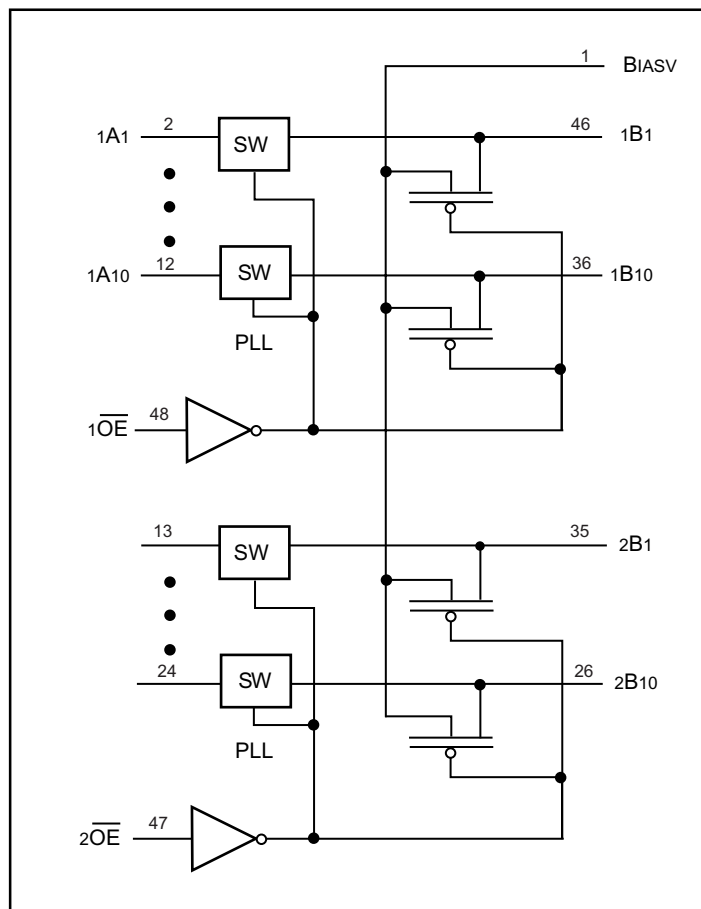

Figure 5.
4. The PI3CXXX, PI3BXXX and PI5CXXX switches with an internal PMOS pull-up resistor at B-side (see figure 5) are only suitable for hot plug but not for hot swap application. During hot swap, the PN junction of the PMOS pull-up will forward the signal from back plane through BIASV pin to the ground, while the voltage at BIASV pin